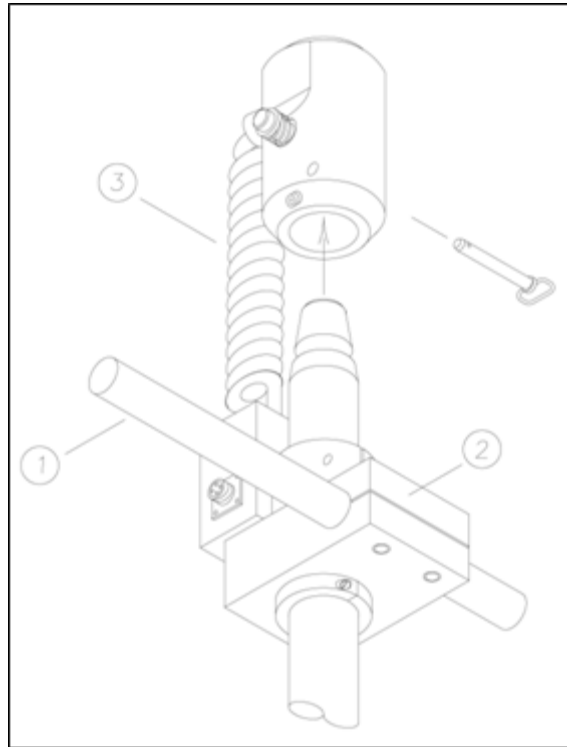

Figure 5 Radial Rod Mount / Junction Box
Attach the AMP connector on the heavy black coil cord to the AMP connector on the Line Bar Coupling. (3) (Figure 5)